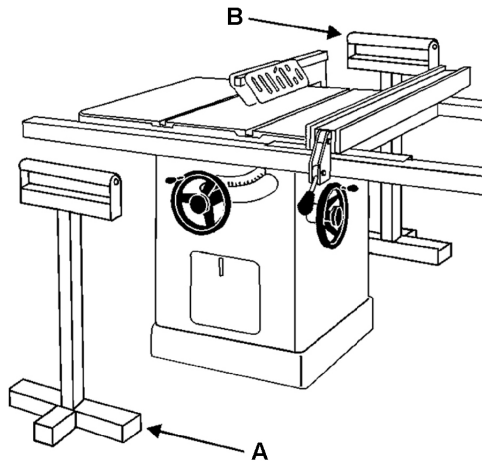

Figure 9-6
When ripping long boards, use a support at front of table (A, Figure 9-6), such as a roller stand, and a support or "tailman" (B) at the rear.